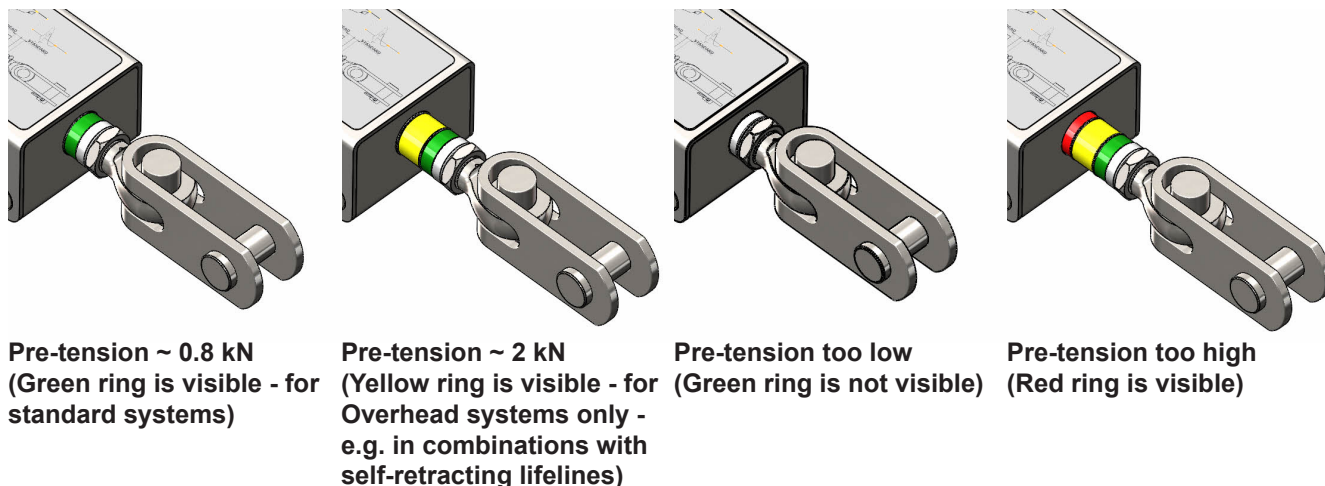
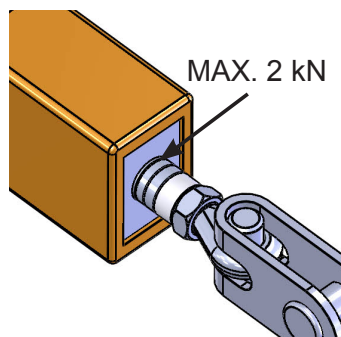

Fig. 2.4 - Pre-tension energy absorber
Fig. 2.5 - Pre-tension tensioner
- Cable is under-tensioned (fig. 2.4)
- Cable is over-tensioned (fig. 2.4)
Always check the pre-tension of the cable on the energy absorber (fig. 2.4) or tensioner (fig. 2.5) before using the Söll-Xenon anchor device.
When using the tensioner (fig. 2.5) the maximum limit of the cable (approximately 2 kN) is reached when the third ring of the pre-tension indicator becomes visible.